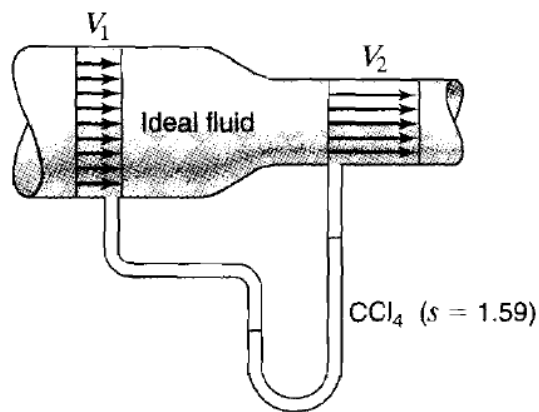

Figure 6 / Rajah 6
3. [a] Assume ideal fluid. The pressure at section 1 in Figure 6 is 68.95 kPa, $V_1 = 4.572$ m/s, $V_2 = 15.24$ m/s, and $\gamma = 961.1$ kg/m³. (i) Determine the reading on the manometer. (ii) If the downstream piezometer were replaced with a pitot tube, what would be the manometer reading?